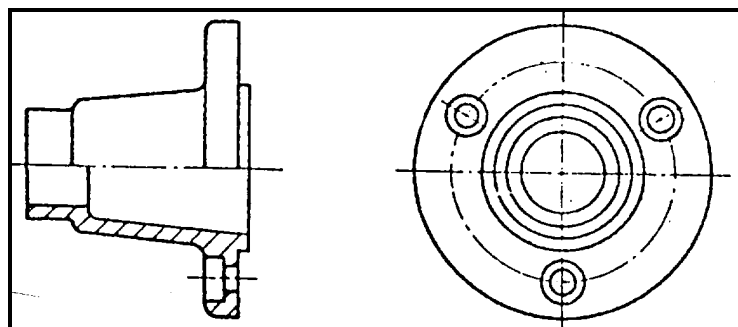

Figure 25
(3) Half Section: This method enables the shape description of the outside & inside of a component to be shown in the minimum number of views. Normally only components which are symmetrical about a centre line are drawn in this way. Hidden lines on the half drawn as an outside view are shown only if necessary for dimensioning or clarity. (Fig. 25)